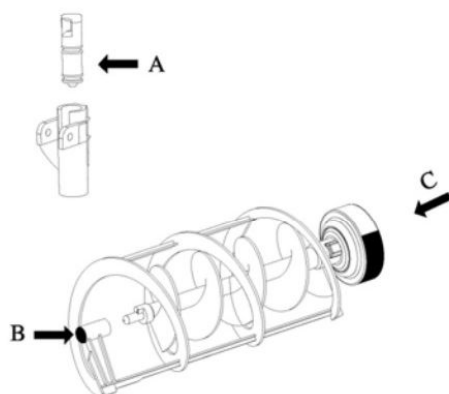

figure 7
2. Lubricate the faucet piston, inside auger and outer spiral (see points A,B and C of figure 7) only with the grease supplied by the manufacture or other "food grade approved "lubricant.